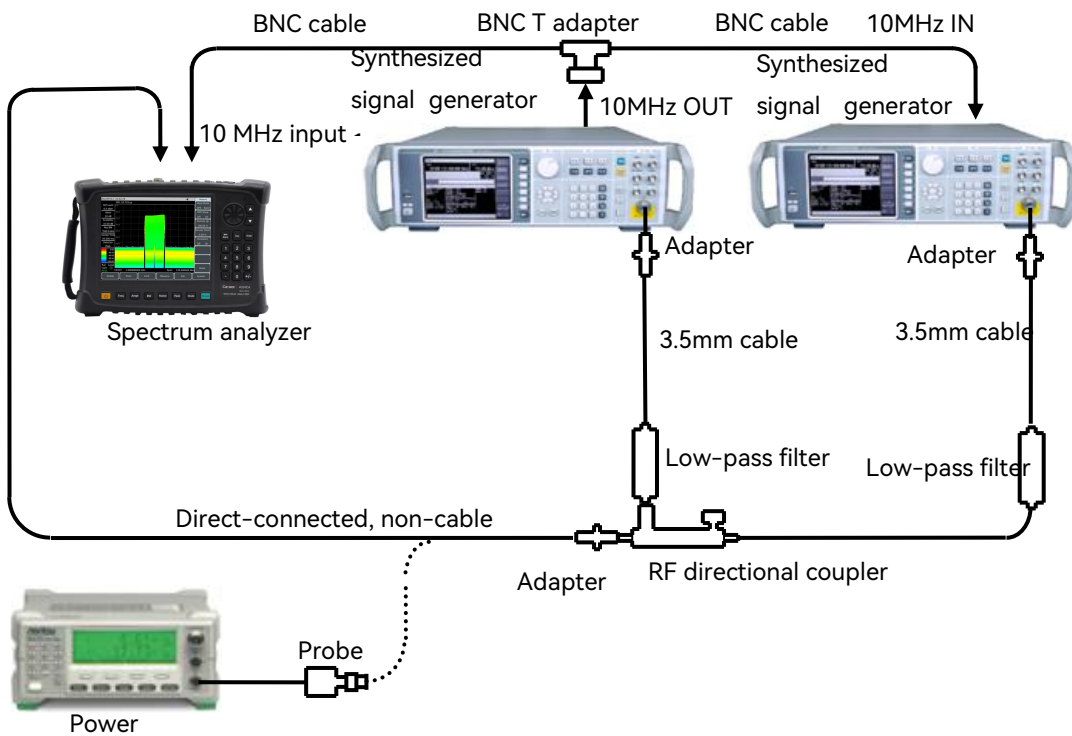

Figure 12-12 Third-order intermodulation distortion test settings (50MHz-4GHz)
1) Connect the instrument as shown in Figure 12-12, select the appropriate low-pass filter and adapter according to the test frequency point, and do not connect the directional coupler to the spectrum analyzer;
- 17) Connect the test equipment as shown in Figure 12-12, select the appropriate filter, adapter and directional coupler, and refer to steps 1-16 to select 3GHz, 4.5GHz and 6GHz as the test points for the three frequency bands of 2.4GHz-4GHz, 4GHz-5.2GHz and 5.2GHz-9GHz, test the third-order intercept point indicators and record them in the test table.